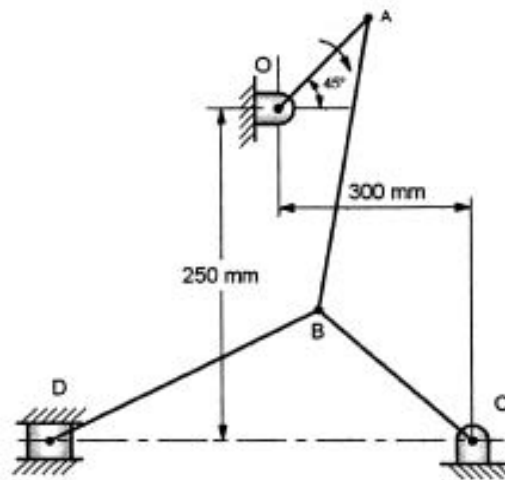

Fig. 3
c) Fig. 3 shows a toggle mechanism. The length of links are : $OA = 100$ mm, $AB = 250$ mm, $BC = 300$ mm, $BD = 350$ mm. The crank OA rotates at a speed of 180 rpm in clockwise direction. Draw velocity diagram using velocity image principle.